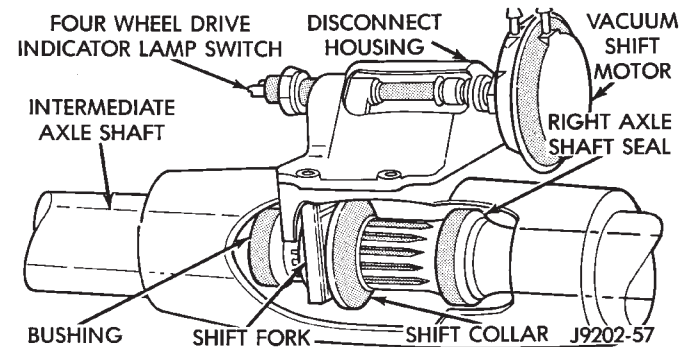

Fig. 5 Disconnect Feature
- YJ vehicles use a vacuum disconnect axle (Fig. 5).